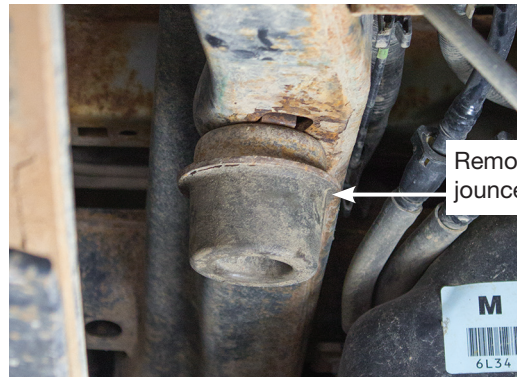

fig. 3a
3. Remove both jounce bumpers between the frame and axle (Figs. 3a or 3b) and for 2004-08 models remove the stock universal nut that held the jounce bumpers in place (Fig. 4).